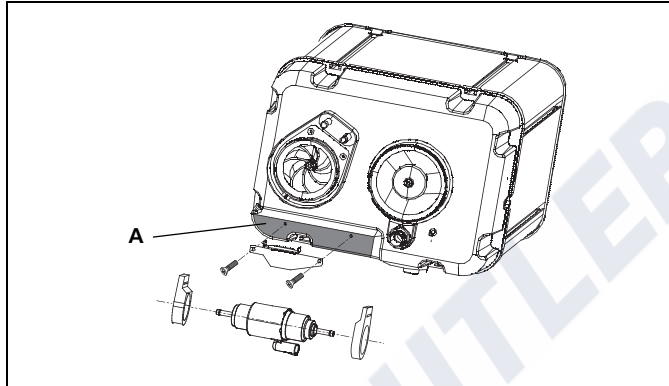

Fig. 27: Mounting location (A) for fuel pump on heater
Mounting the fuel pump on the heater (See Fig. 27, "Mounting location (A) for fuel pump on heater"), is only allowed if the length of the fuel line's suction side is not more than 1.4 m.